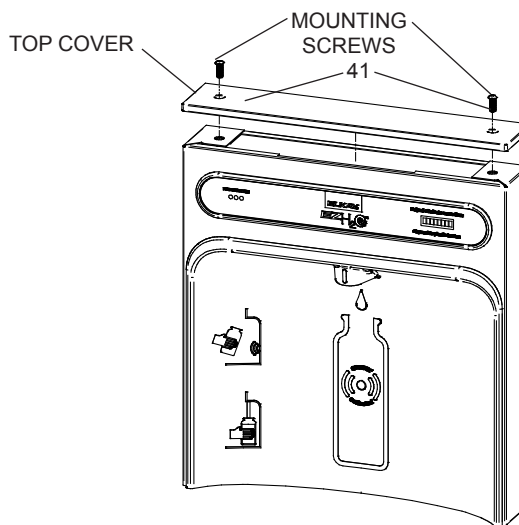

Fig. 7
- 9) **Once Bottle Filler is installed on wall plate tabs,** water line and power cord are installed properly, push top of Bottle Filler toward wall and line up top cover two (2) holes.
- 10) **Reinstall Top Cover on Bottle Filler** (See Fig. 7) with two mounting screws from step 1 above. Caution, do not over tighten screws.